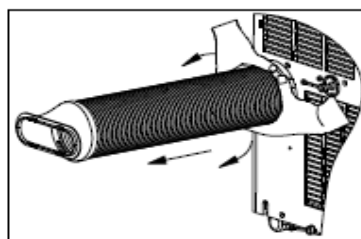

Fig.30
- Disconnect the exhaust hose and cover the window / wall hole with the adaptor cap. (Fig.30)